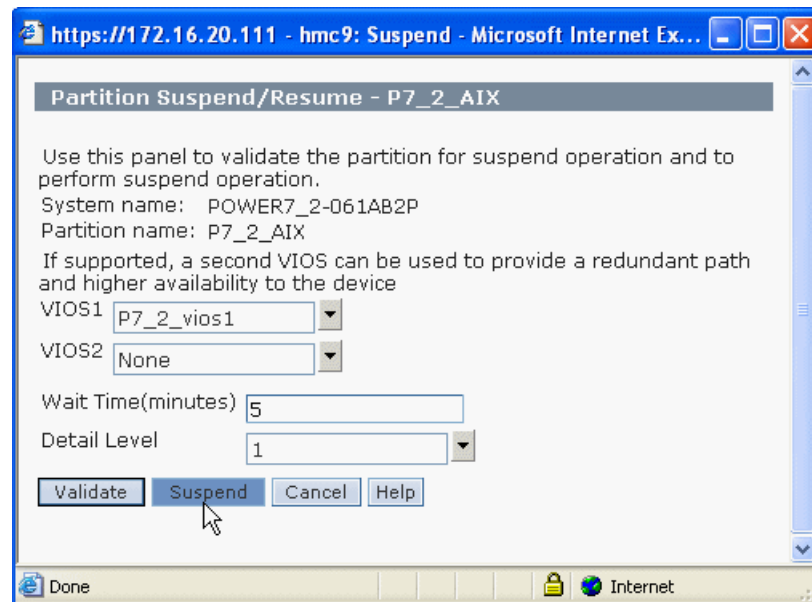

Figure 17-30 Starting partition suspend operation
2. Verify, and modify if necessary, the information provided in the **Partition Suspend/Resume** windows, as shown in Figure 17-30, then click **Suspend** when you are ready to perform the suspend operation.